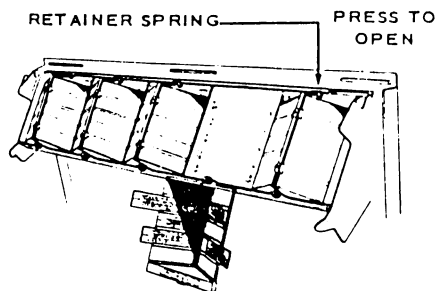

Figure 3.
The complete Program Holder consists of five separate program holder assemblies which are held in place by means of retainer springs. The individual holders may be positioned for servicing, i. e., insertion of title strips or classification headings, as shown in Figure 3. This is accomplished by depressing the top of the retainer spring and swinging the holder down. The holder may then be completely removed by unhooking from the program holder frame.
- B. Connecting the Pricing Terminal Board taper tabs all on Singles, Figure 3.